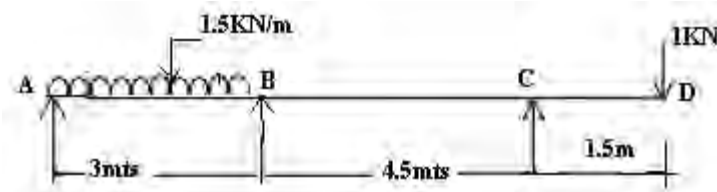

Figure 1:
4. A beam loaded as shown in figure 1. The moment of Inertia of the beam is span AB is 'I' and that in span BC is 2I. Draw the SFD and BMD of the beam. [16]